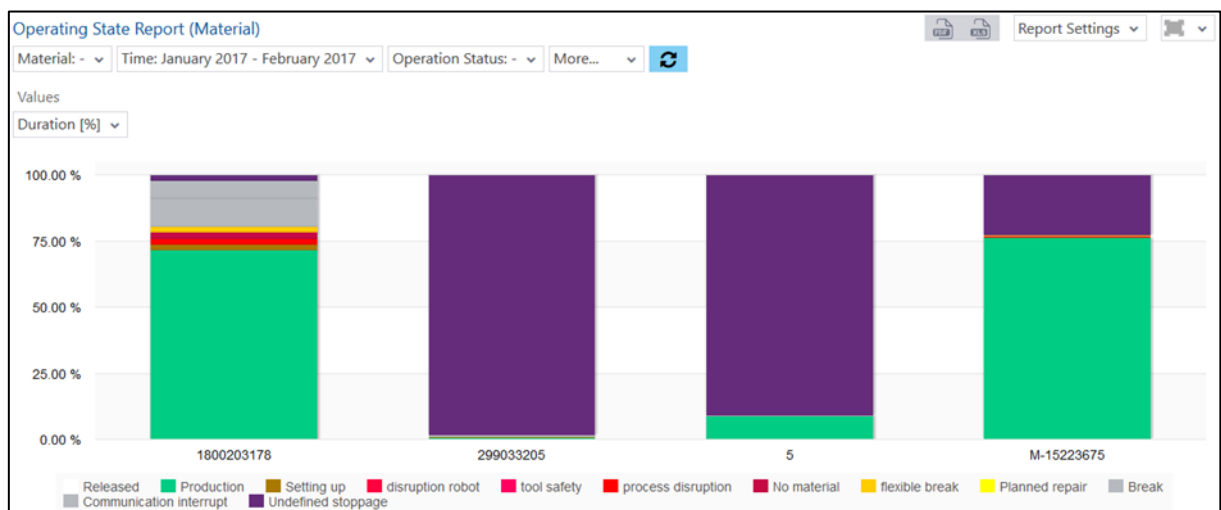

Fig. 71: Operating state report (material) as column chart
- Operating state report (material) as column chart (fig. 71):